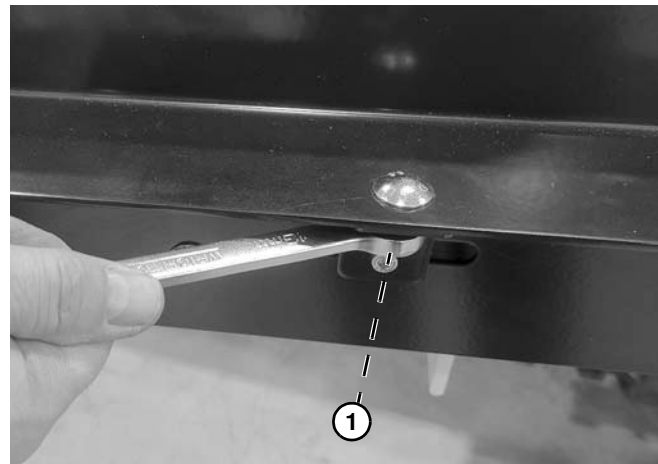

Figure 57
9. Tighten carriage bolts and nuts (**Figure 57, item 1**).